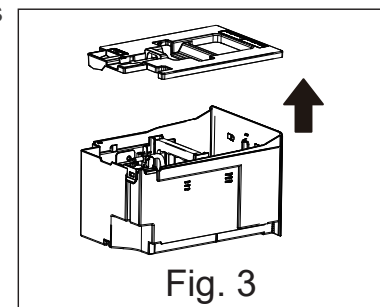

Fig. 3
- Take out the water bucket from the unit and remove the bucket top cover. (shown as fig.3)